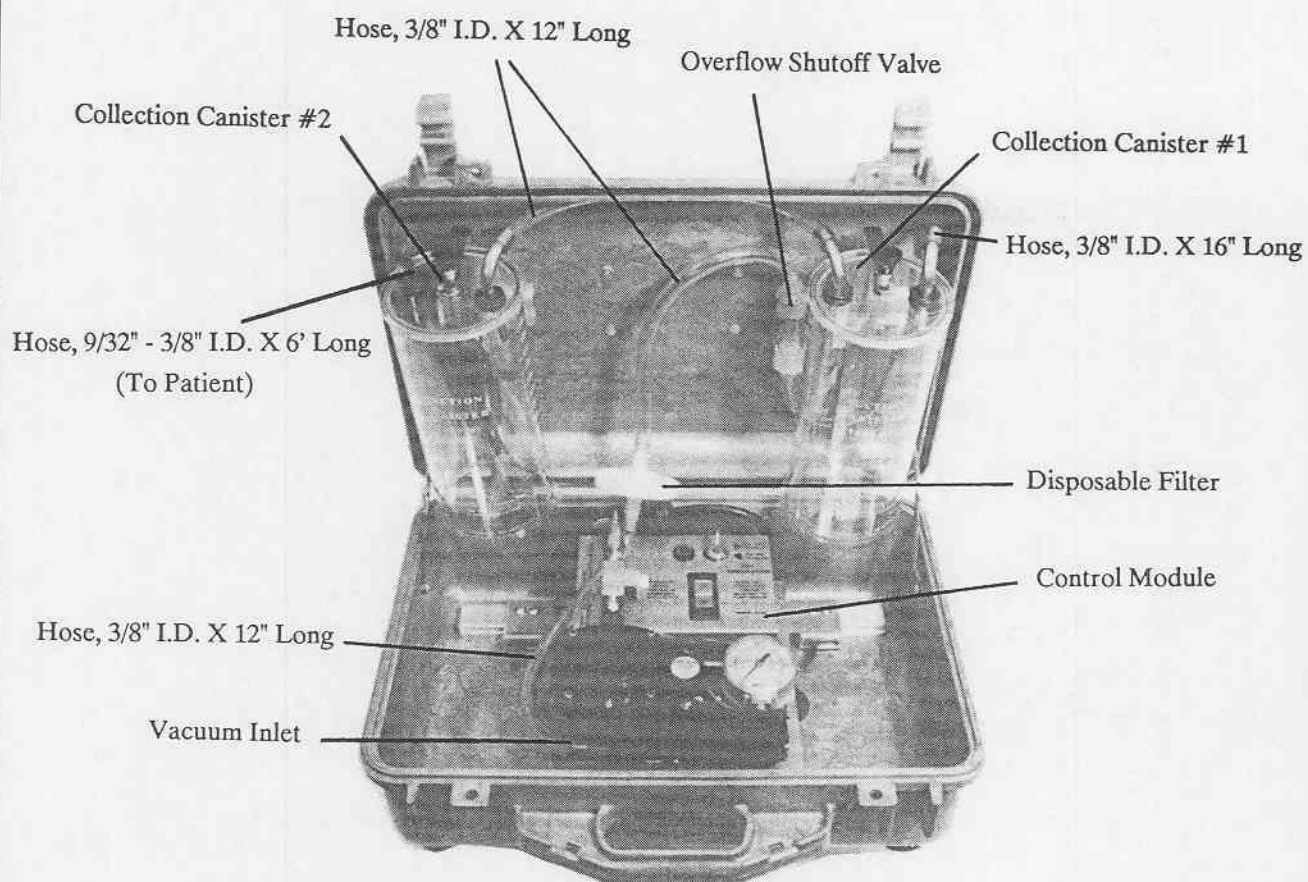

Figure 2.
Refer to Figure 2 for additional interconnection reference.
1. Verify that Key Switch (2) is set to correct operating voltage.
2. Insure that all suction tubing is properly secured to respective fittings. Verify that collection canister lids are properly secured, fittings in place as shown (Figure 2), and no kinks in connecting tubing.
3. Depress Rocker Switch/Circuit Breaker (3) to "ON" position.
4. Adjust Vacuum Regulator Valve (4) to the maximum desired vacuum level by "pinching" and holding the vacuum tubing going to the first stage collection canister. Deliverable vacuum levels will not exceed the preset maximum level. Adjusted and delivered vacuum levels are continuously displayed on the dual-scale Vacuum Gauge (5).
5. For applications which require fast pump down times, utilize first stage collection canister only. For applications which warrant suctioning of greater quantities of aspirate, utilize dual canisters, connected in series, as shown. Always connect overflow mechanism between vacuum pump and collection canister. When using multiple canisters, connect overflow mechanism between vacuum pump and collection canister furthest from the patient (Figure 2).
6. A disposable filter which is both hydrophobic and bacterial is provided. This filter connects between the overflow mechanism and collection canister. When multiple canisters are used, connect the filter between the overflow mechanism and collection canister furthest from the patient (Figure 2). This filter should be replaced when discoloration of its membrane occurs, the membrane contacts aspirate, or following 150 cumulative hours of use. This filter is designed to retain bacteria which would otherwise be exhausted into the immediate vicinity. **DO NOT** bypass this filter.
7. **DO NOT** block or occlude the Pressure Port (8) during suctioning.
4. Orient collection canisters as shown in Figure 2 following cleaning. Route connecting tubing and filter as shown in Figure 2.